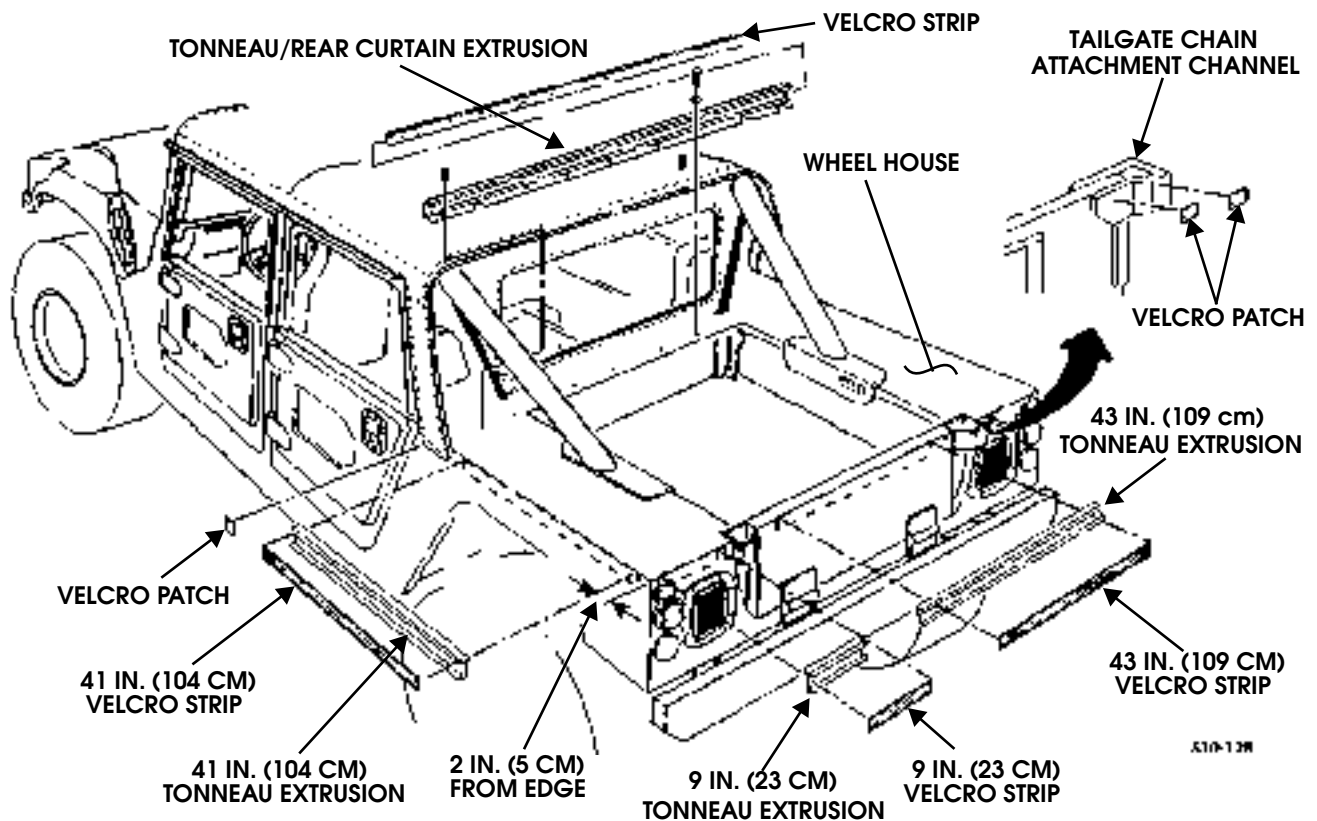
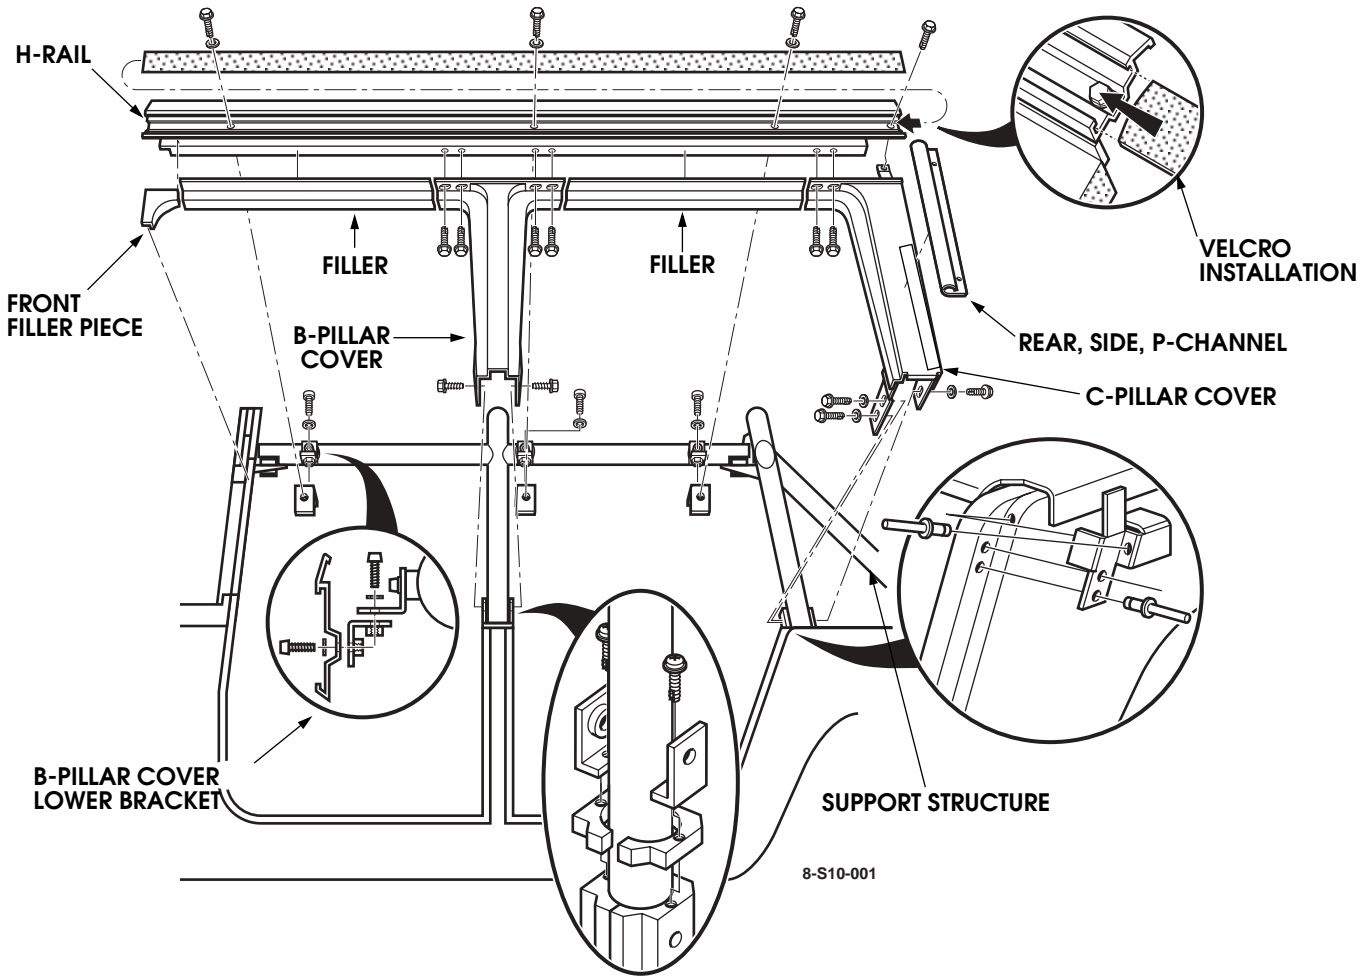

Figure 10-131: Velcro Strip and Patch Removal
Figure 10-137: Rail and Support Structure Locations
- Remove velcro strips and patches from tonneau area (Figure 10-131).
3. Put foam tape on the top mating surface of the C-pillar cover, and place the rear extrusion against the bottom surface of the H-rail. Install three screws (Figure 10-137).
4. Put foam tape on the top edge of the B-pillar cover. Place the cover against the bottom edge of the H-rail and tighten four upper screws (Figure 10-137).
7. Install lower fasteners in B-pillar cover. Do not tighten (Figure 10-137).
8. Install lower fasteners in C-pillar cover. Do not tighten (Figure 10-137).
10. Install front upper corner filler piece with two rivets and sealer (Figure 10-137).
13. Install rail and P-seal on top of windshield with (12) screws.
16. Secure tonneau/rear curtain extrusion to body with five lockwashers, capscrews, and four self-tapping screws. Use windshield sealer between the extrusion and the body (Figure 10-131).